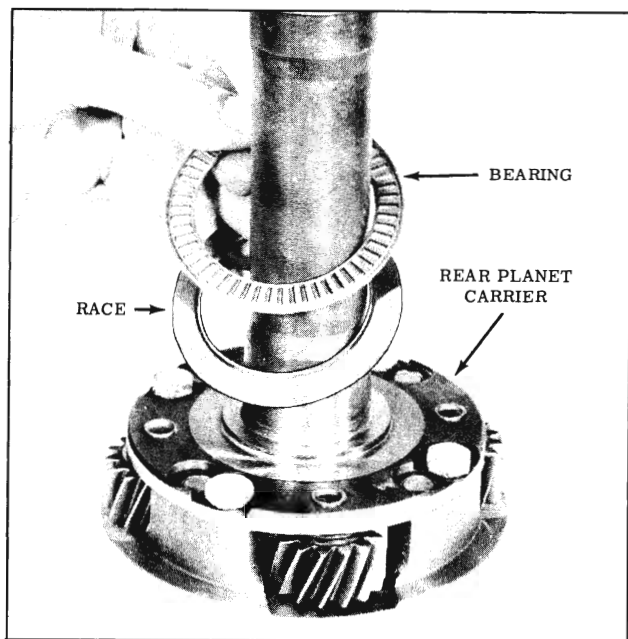

Fig. 3-42 Thrust Bearing and Races
5. Remove the thrust bearing and race from the rear unit carrier assembly. (Fig. 3-42)